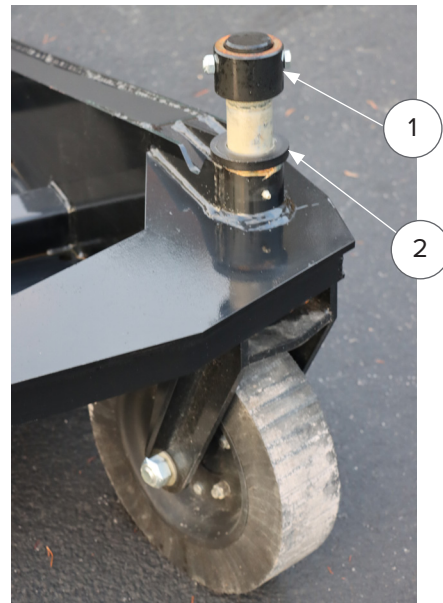

Figure 3
2. Remove the bolt and bushing (Item 1) [Figure 3] from the top of the wheel yoke, remove any height adjustment spacers (Item 2) [Figure 3], and remove the wheel and yoke from the rest of the deck.